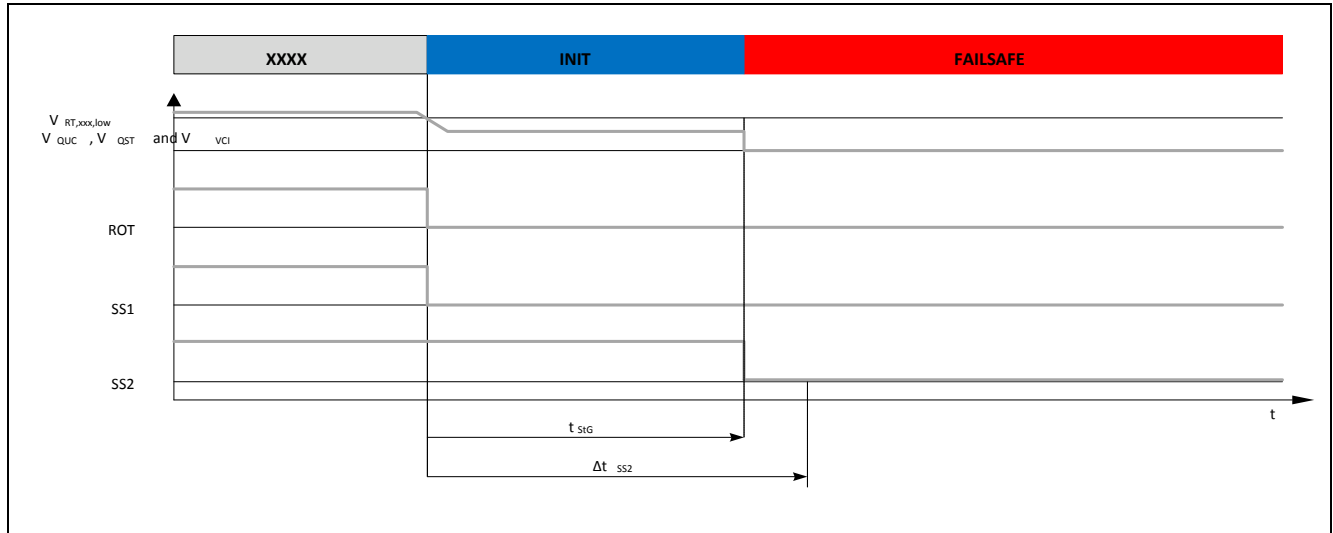

Figure52 Transition from XXXX to INIT to FAILSAFE state after detection of short to ground
- The detection of a short to ground of the μC related voltages V_{QUC} , V_{QST} or V_{VCI} as shown in the Figure 52 will first be detected as an under voltage event and move the device from NORMAL state to INIT state. After the short to ground detection time t_{SIG} the device will then move from INIT state to FAILSAFE state (please refer to transition from INIT state to FAILSAFE state).
- The detection of a short to ground of the μC related voltages V_{QUC} , V_{QST} or V_{VCI} as shown in the Figure 52 will first be detected as an under voltage event and move the device from STANDBY state to INIT state. After the short to ground detection time t_{SIG} the device will then move from INIT state to FAILSAFE state (please refer to transition from INIT state to FAILSAFE state).
- The detection of a short to ground of the μC related voltages V_{QUC} , V_{QST} or V_{VCI} as shown in the Figure 52 will first be detected as an under voltage event and move the device from SLEEP state to INIT state. After the short to ground detection time t_{SIG} the device will then move from INIT state to FAILSAFE state (please refer to transition from INIT state to FAILSAFE state).